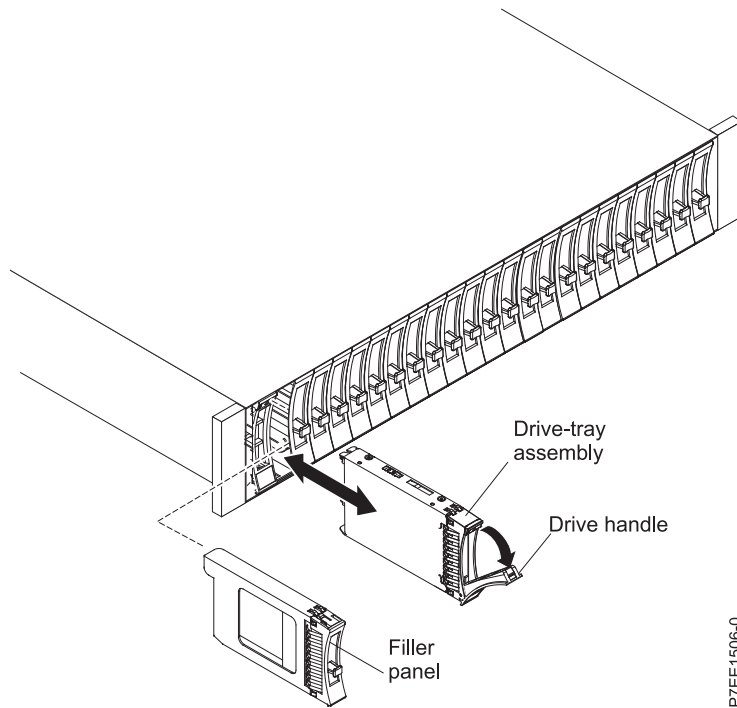

Figure 48. Removing a drive from an ESLS storage enclosure
5. Grasp the front of the drive and pull it out from the slot, ensuring that you support the bottom of the drive, as shown in Figure 48.